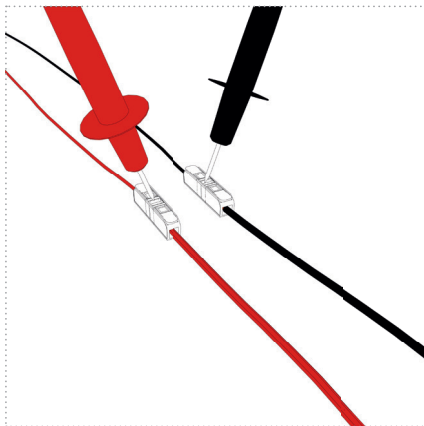

Figure 20
- Strip the onboard connection cables by 11 mm (Figure 20).
- Using Tables 17 and 18, connect the 2 cables (power supply and signal) of the UV unit to the power supply and pump using the splicing connectors provided in the scope of delivery (Figures 20 and 21).